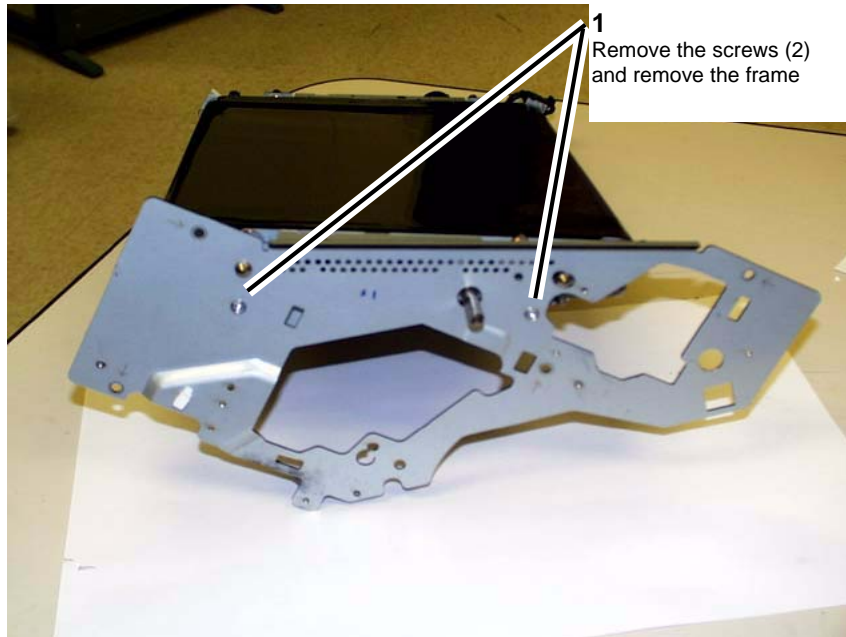

Figure 1 Removing the outboard frame
5. Remove the outboard frame (Figure 1)